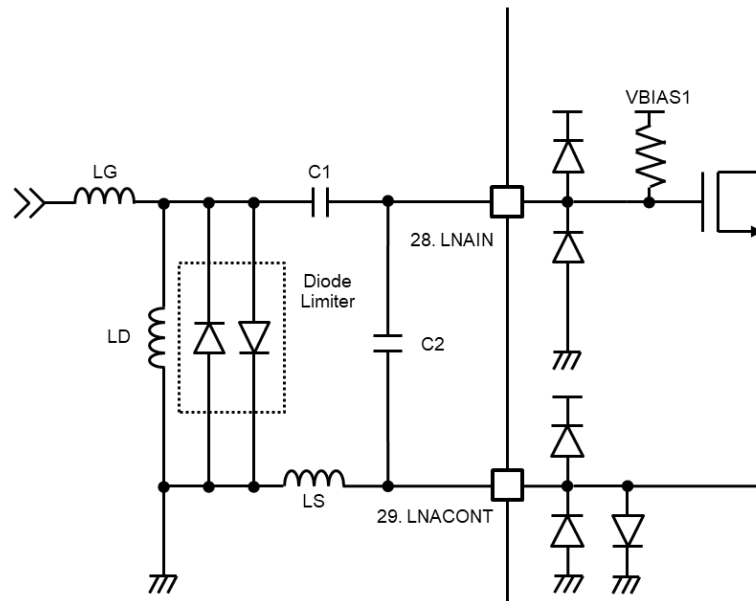

Figure 16. Equivalent Circuit for LNA Input Block
An equivalent circuit at the LNA Input is shown in Figure 16. An AC coupling capacitor (C1) is needed since the LNAIN pin is DC biased internally. The LNACONT pin should be connected to the ground via a source inductor (LS). C2 and LG are matching elements for impedance conversion.